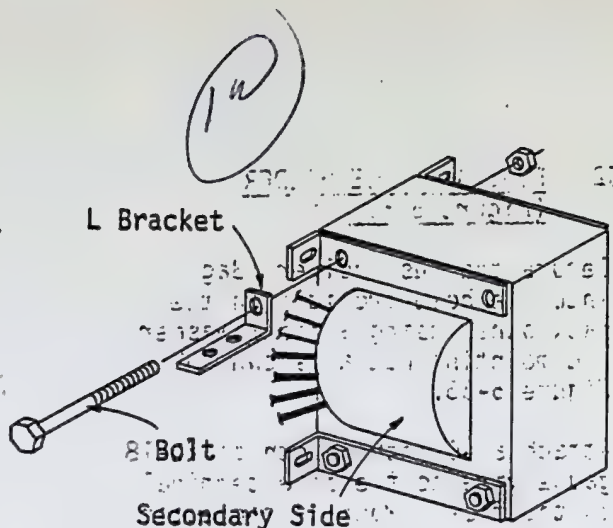

Figure 5-55. "L" Bracket Mounting
5-64. TRANSFORMER (Figures 5-55 through 5-69)
1. Orient the transformer with the secondary side (four large wires) facing you. Remove the two top bolts and nuts and use them to mount two "L" brackets (Bag 2) as shown in Figure 5-55.